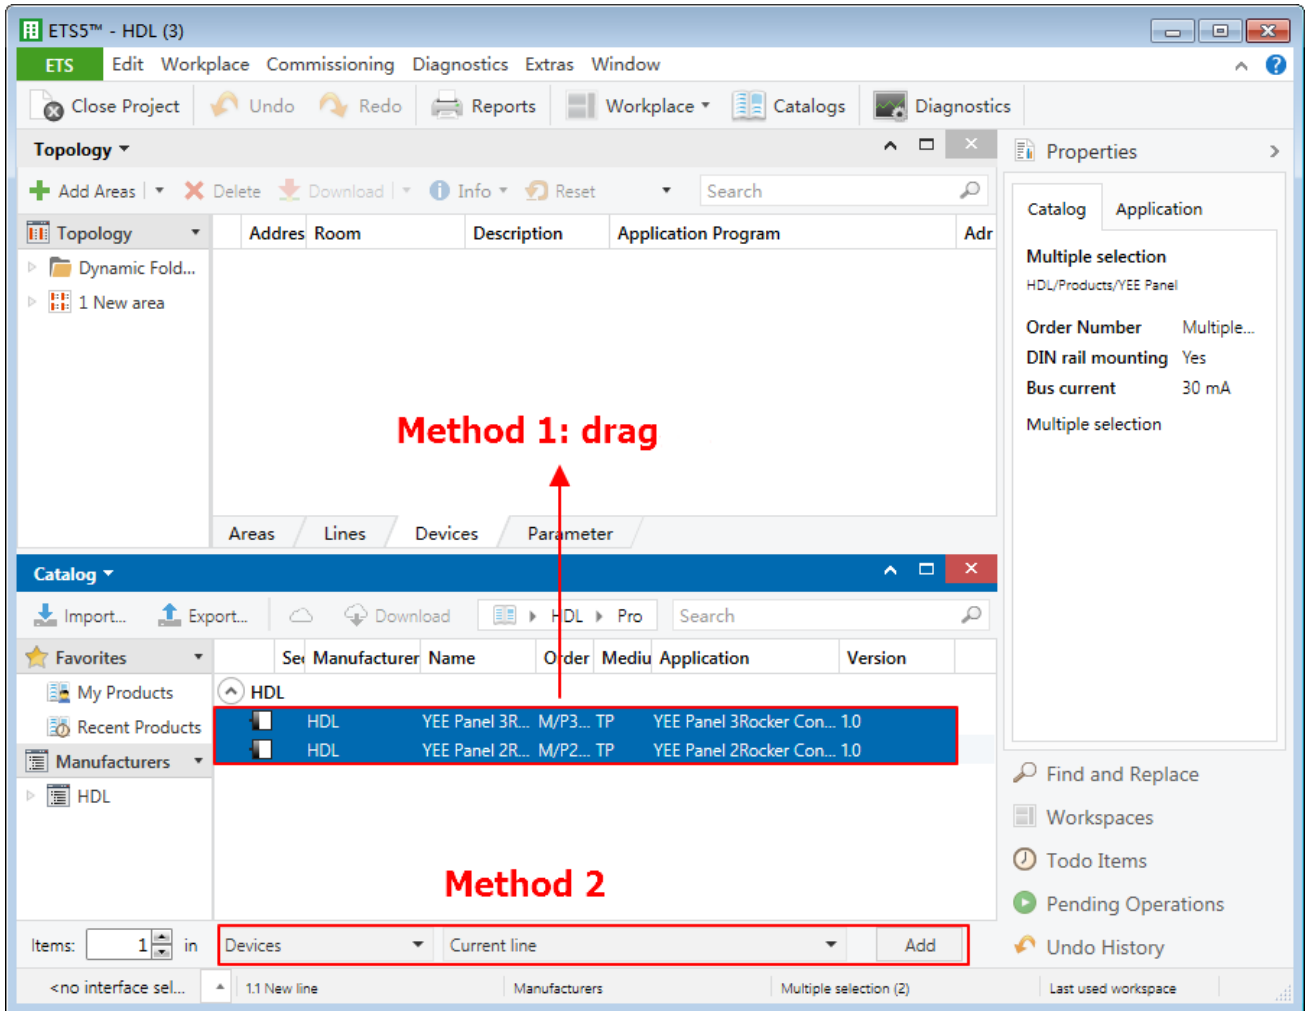

Figure 1-5 Add devices to projects
- ③ As shown in Figure 1-5, click “HDL” in “Manufactures” column and select devices to be added to the project on the right. Drag devices to the above area (Method 1) or click “Add” button to add devices after clicking the location needed to add projects below (Method 2).